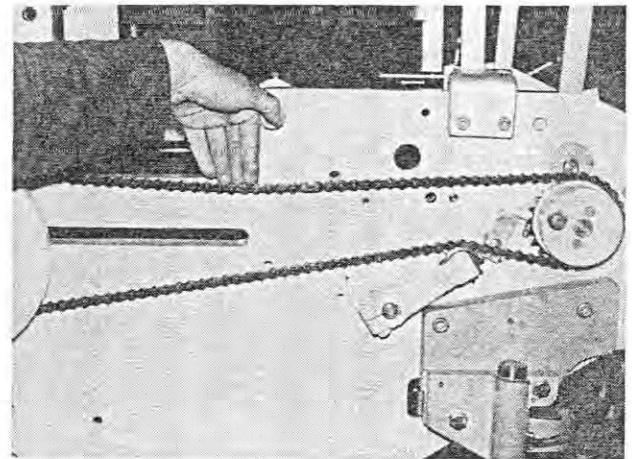

Fig. 62
2. Press down the chain on its longest section (Figure 62). It must deflect by 15...25 mm.